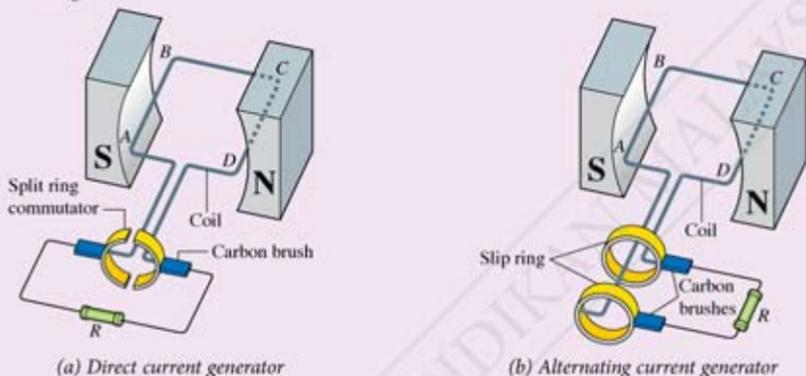

Figure 4.29
2. Examine Figure 4.29 that shows the structure of the direct current generator and alternating current generator.